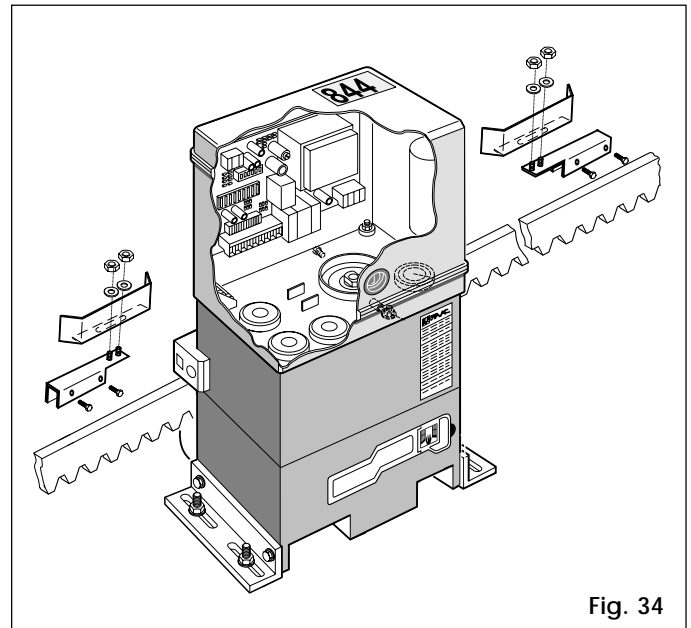

Fig. 34
- 2) Assemble the limit switch, positioning the stop plate centrally relative to the threaded studs of the bracket (Fig.34).